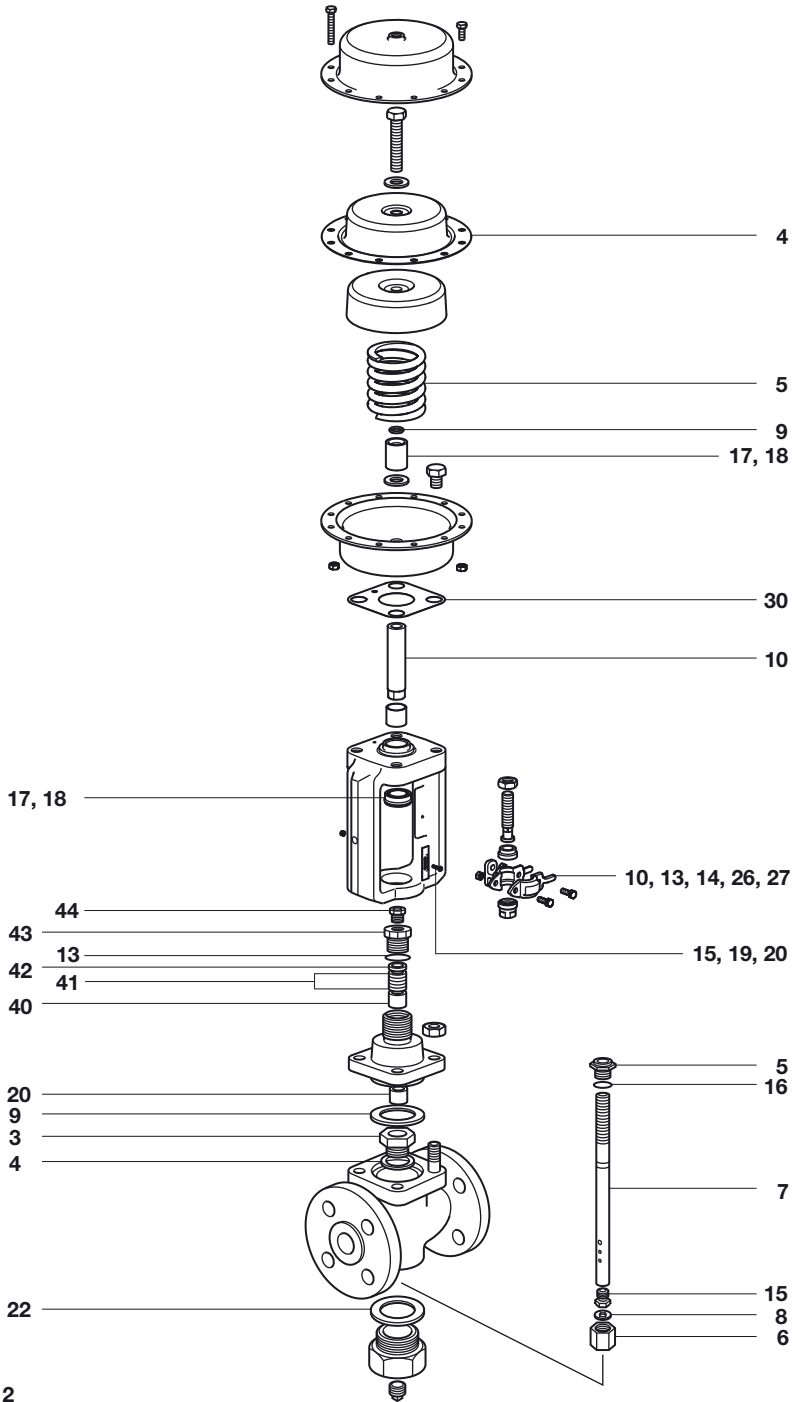

Fig. 12
- Fit the bottom support ring (40, see Figure 12) over the valve stem and locate in the valve bonnet with its small diameter downwards.
- Fit the stuffing box gasket (13) to the stuffing box (43), and pass the stuffing box assembly over the valve stem (7).
- Ensure the gland nut (44) is finger tight against the top support ring (42), then move the valve stem up and down over its full travel five or six times to bed in the packing rings.
- Fit the top support ring (42), chamfer first, into the stuffing box (43). (See Figure 12).
- Fit the five packing rings (41) into the stuffing box from below, so the thread in the top of the stuffing box cannot damage the rings. Ensure that the splits in the packing rings are staggered. Tip:- Use the bottom support ring (40) as a temporary tool to push the packing rings into place.
- Fit the bottom ring support over the valve stem (7) and locate in the valve bonnet with its small diameter downwards.
- Fit the gland nut (44), and tighten finger-tight only at this stage.
- Fit the stuffing box gasket (13) to the stuffing box, and pass the stuffing box assembly over the valve stem.